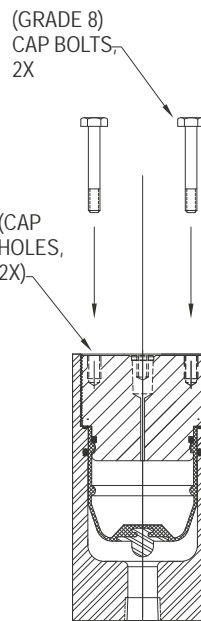
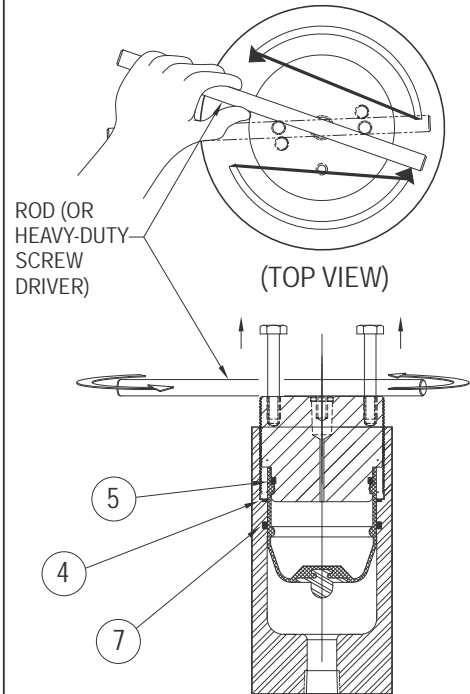

FIGURE 3
FIGURE 4
4. Insert two 3" long 5/16–18 threaded bolts into the two holes in dampener cap (FIGURE 3). Insert rod or heavy duty screwdriver with long shank between the two bolts and remove cap by turning counterclockwise (FIGURE 4).
6. Reinsert two bolts in dampener cap if removed after disassembly (FIGURE 3).
8. Use a rod or long shank screwdriver to tighten cap clockwise into body. Cap must be tightened firmly into body to assure cap sealing O-ring is sealed properly against dampener body and cap (FIGURE 4).
9. Remove two bolts from dampener cap and install charging valve onto dampener cap. Make sure charging valve O-ring ② is installed properly and not damaged.